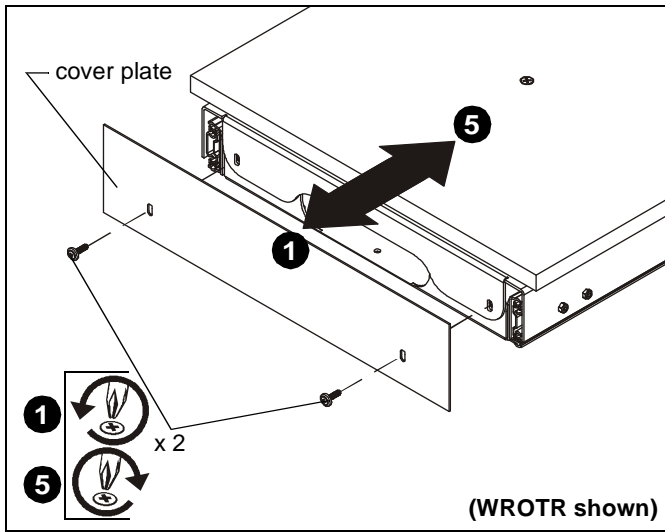

Figure 1
1. Remove and **SAVE** two screws from ST-/WROTR base (A) front and remove the cover plate. (See Figure 1)
5. Replace cover plate and attach with two fasteners removed in Step 1. (See Figure 1)